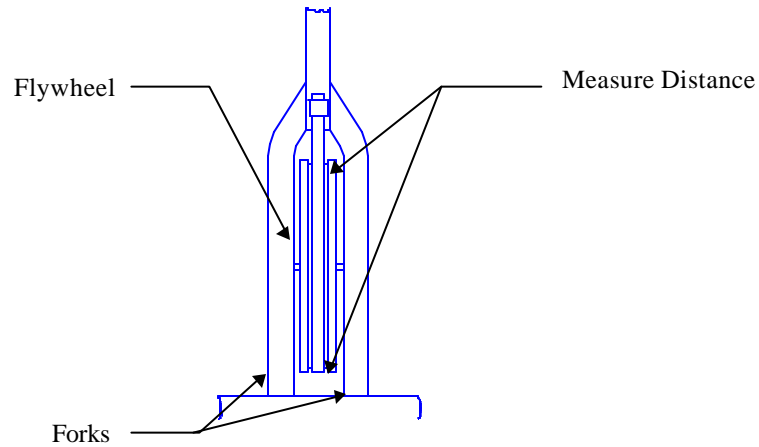

Figure 4
1. Stand a few feet away facing the front of the Keiser bike. Look at the alignment of the flywheel with respect to the seat tube and fork tubes. If the Flywheel does not appear to be parallel to these tubes, it probably is out of alignment and needs adjustment. A more precise method of checking the alignment requires measuring the distance from one side of the flywheel, at the top edge, to the inside edge of the fork tube (Figure 4). From the same side of the flywheel, but at the bottom edge, measure the distance to the inside of the same fork tube. These distances should be about the same (within about 1/8").